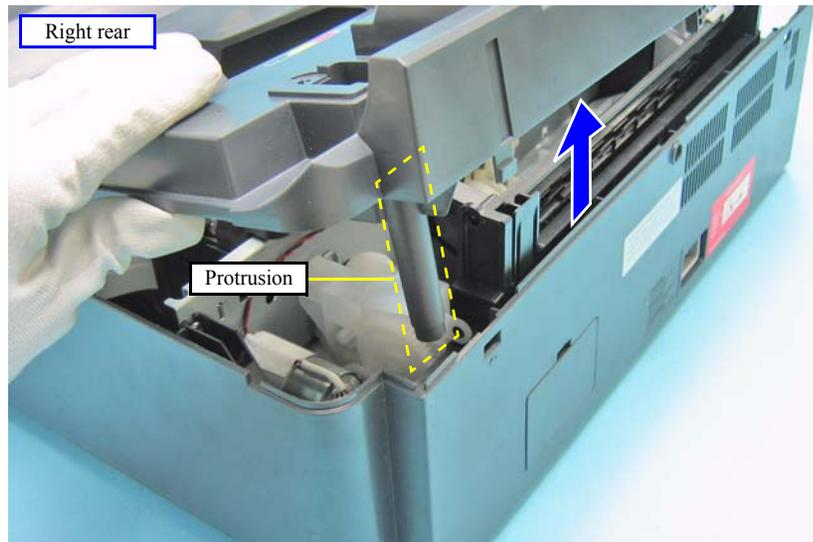

Figure 4-12. Removing the Upper Housing (2)
- Lift the rear of the Upper Housing until its protrusion comes to the point shown in **Figure 4-12**.